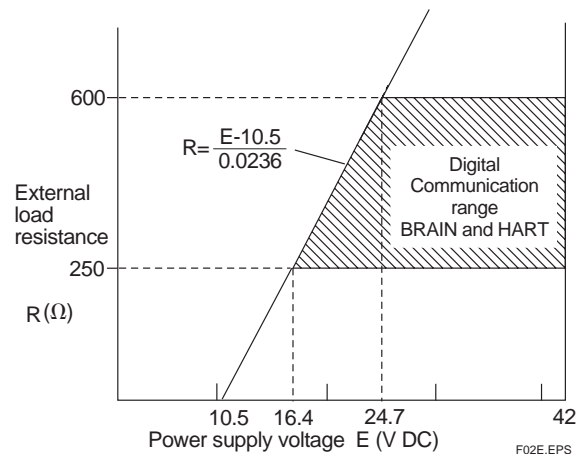

Figure 1. Relationship Between Power Supply Voltage and External Load Resistance
- Load resistance; See figure 1.